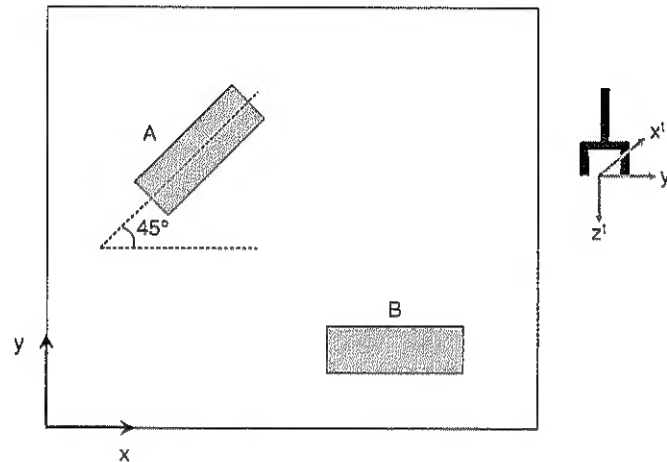

Fig. Q5
- a) A robotic workstation, with parts A and B, is as shown in Fig. Q5. Given that the centroid of part A has coordinates $[2 \ 12 \ 5]^T$ and the centroid of part B has coordinates $[7 \ 3 \ 5]^T$.